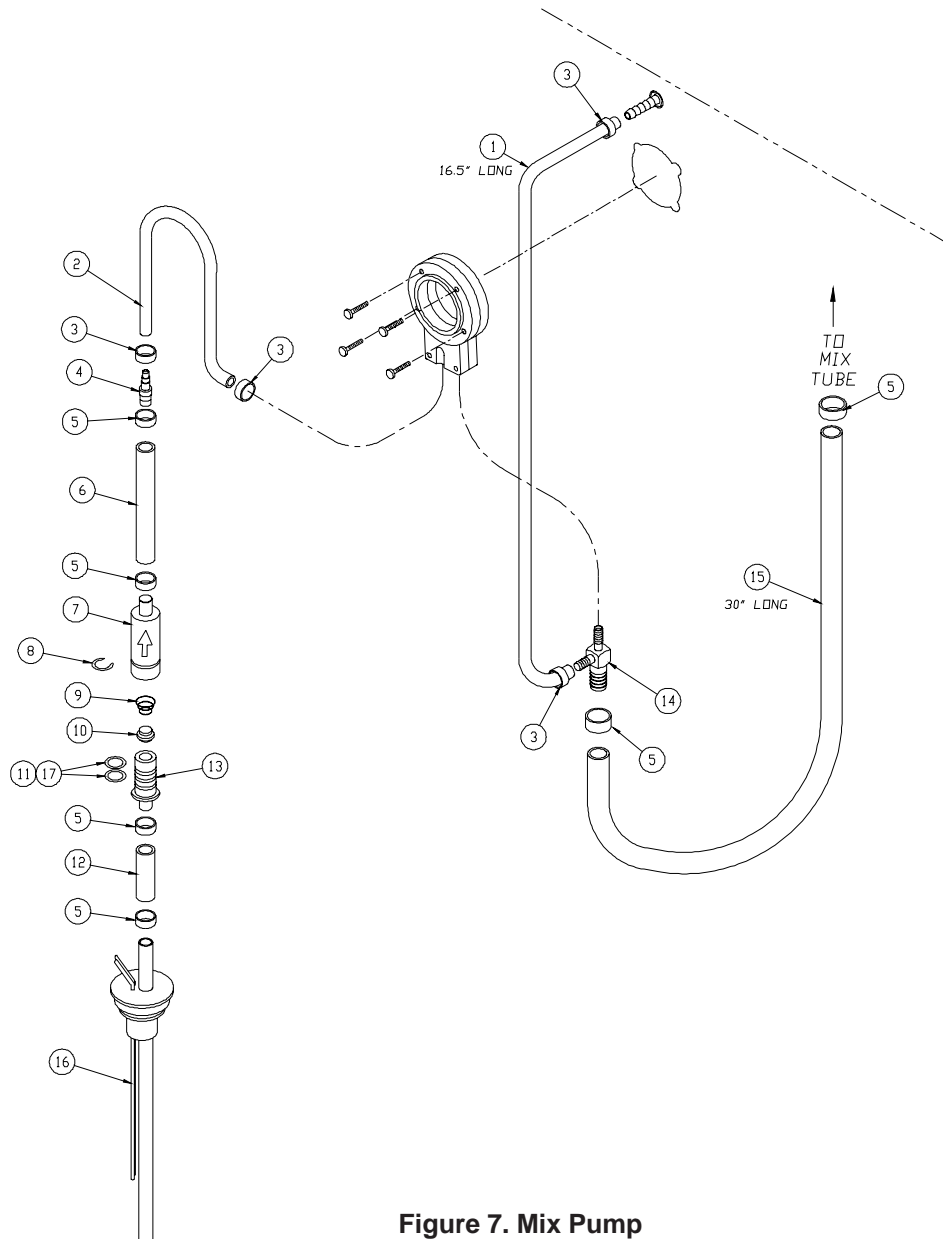
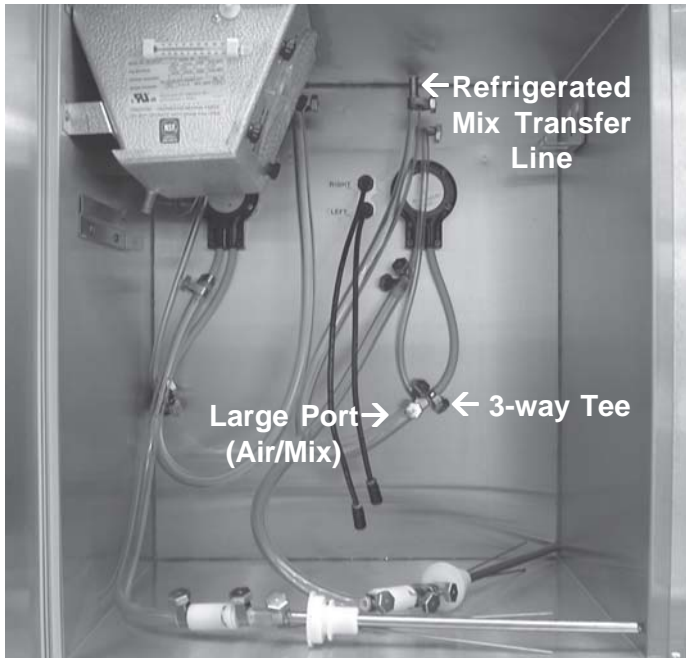

Figure 7. Mix Pump
Figure 8. 3-way Tee
10. Connect free end of mix pump hose to 3-way Tee as shown in Figure 7. When all connections are complete the 3- way Tee must be lower than the black pump housing. Figure 8.